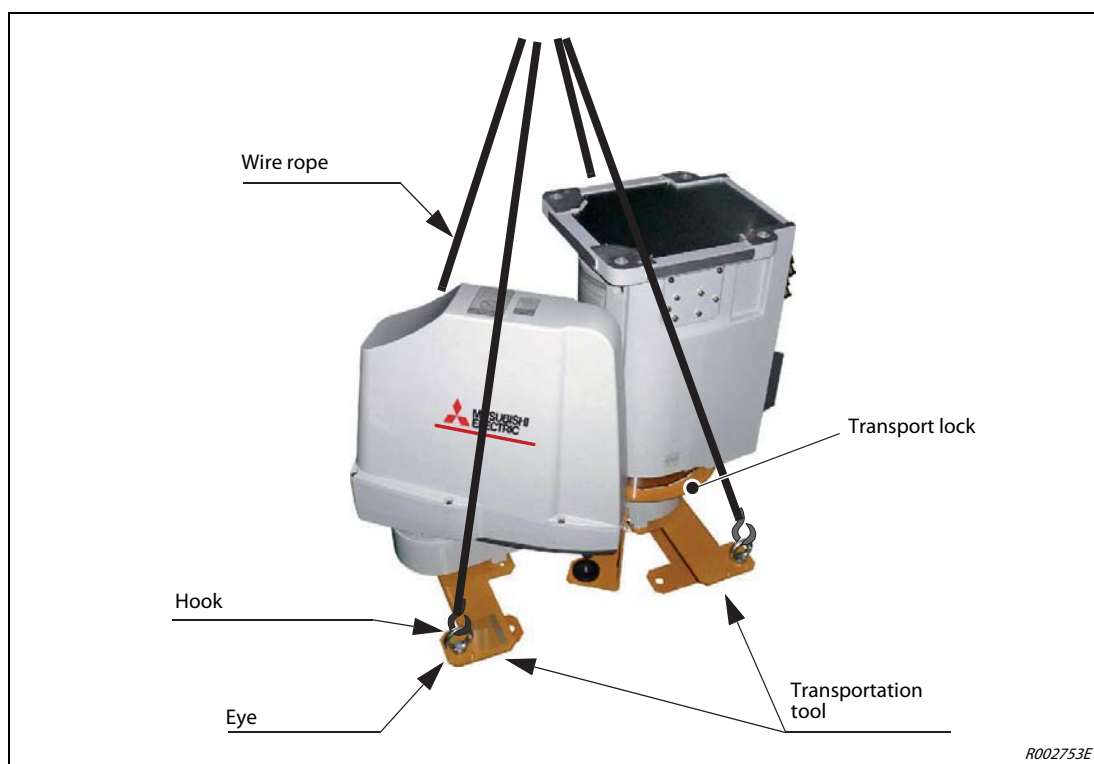

Fig. 3-9: Fix the transport suspensions
- **To avoid faults, the wire rope of the crane must be attached as shown in Fig. 3-9.**